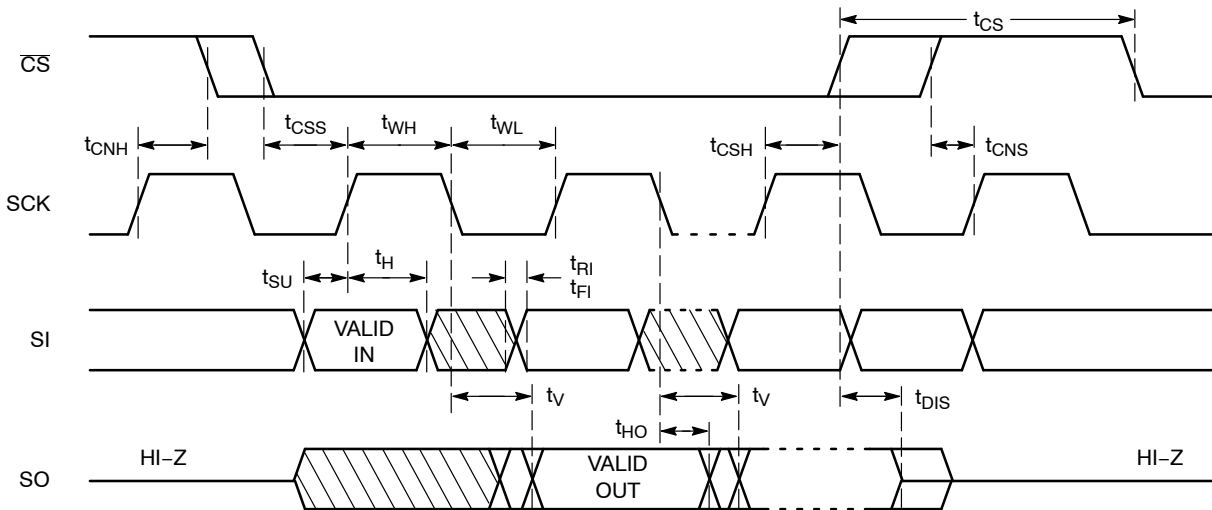

Figure 2. Synchronous Data Timing
7. **All Chip Select (CS) timing parameters are defined relative to the positive clock edge (Figure 2). t_{CSH} timing specification is valid for die revision C and higher. The die revision C is identified by letter "C" or a dedicated marking code on top of the package. For previous product revision (Rev. B) the t_{CSH} is defined relative to the negative clock edge.**
After a high to low transition on the $\overline{CS}$ input pin, the CAT25080/160 will accept any one of the six instruction op-codes listed in Table 9 and will ignore all other possible 8-bit combinations. The communication protocol follows the timing from Figure 2.